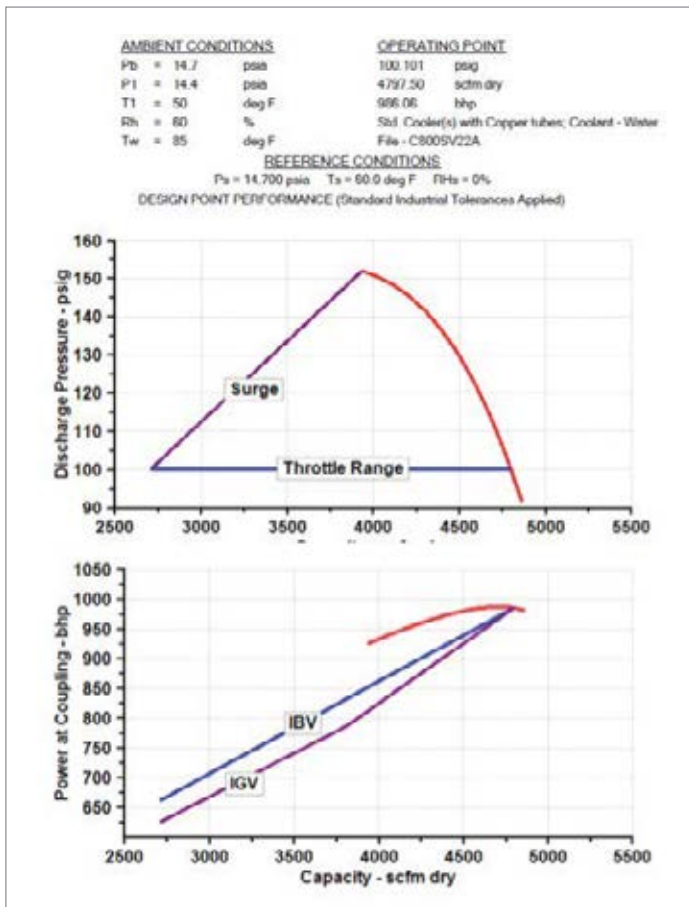

Figure 4. Typical Multi-Stage Plant Air Centrifugal Air Compressor Curve, 50°F inlet.
Centrifugal air compressor delivered flow, or “capacity”, is dependent on inlet density. If the density drops due to higher inlet temperature, the volume flow actually reduces. The lower mass flow reduces the ability of the first stage impeller to develop velocity through momentum, and the inlet volume flow (in icfm or m3/hr) drops. This is in contrast to positive displacement air compressors, where inlet volume flow is not affected by inlet density. Delivered mass flow, related to standard conditions, (scfm or nm3/hr), always drops linearly with inlet density, even if inlet volume was constant. Thus, inlet density reduction from elevated inlet temperature creates a “double jeopardy” for centrifugal air compressors, dropping both icfm and scfm. Figures 4 and 5, actual curves of an identical air compressor at 50 and 90°F inlet, show this. The ratio of delivered flow is  $1 - 4342/4798 = 9.5\%$ . If the inlet flow was constant, the drop would only
2. As capacity is reduced at constant pressure, the air compressor gets close to its minimum throttle point, called the “surge control line”, as shown in Figure 4. As the compressor gets close to the surge line, current is dropping and polytropic head